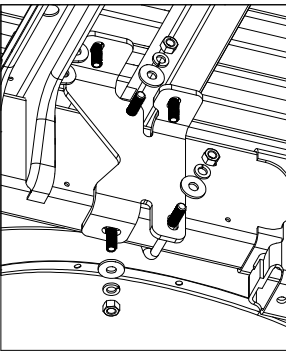
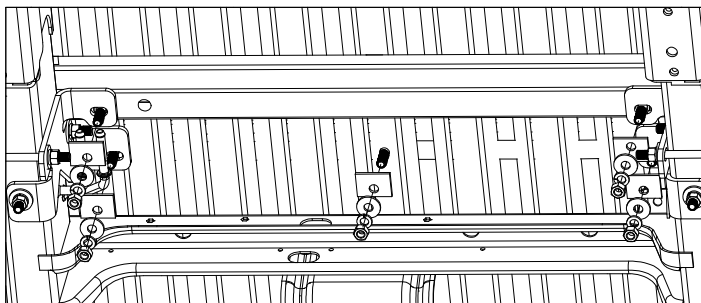

FIGURE B7: View looking up at the inside of driver side frame.
FIGURE B9: View looking up at the bottom of the truck bed.
4. **Install the rear frame brackets.** Fasten the U-bolts and carriage bolt (under the frame) to the rear brackets with three 1/2" flat washers, 1/2" lockwashers, and 1/2" finish nuts, see figure B7 and B8. Install an offset rectangle washer, 1/2" flat washer, 1/2" lock washer and 1/2" nut on each of the carriage bolts passing down through the bed, as shown in figure B9. Hand tighten each nut.